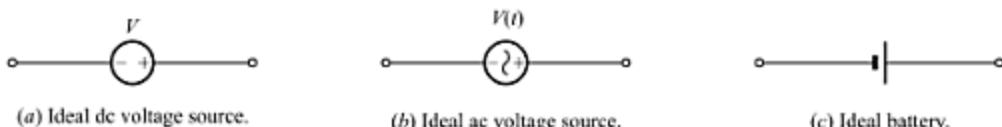

Fig. 3.9 Symbols for different types of ideal voltage sources.
It is defined as an energy source whose terminal voltage (V) is independent of the output current (I). It means its terminal voltage is independent of the load resistance (R_L) connected to it. For any value of R_L , right from zero (i.e., a short circuit) to infinity (i.e., an open circuit), the terminal voltage remains constant. The mathematical definition of an ideal dc voltage source is described by Fig. 3.8a, and its graphical characteristic is shown in Fig. 3.8b. Note that the source determines the voltage, but the current is determined by the load. Figure 3.9 shows the circuit symbols for different types of *ideal voltage sources*.